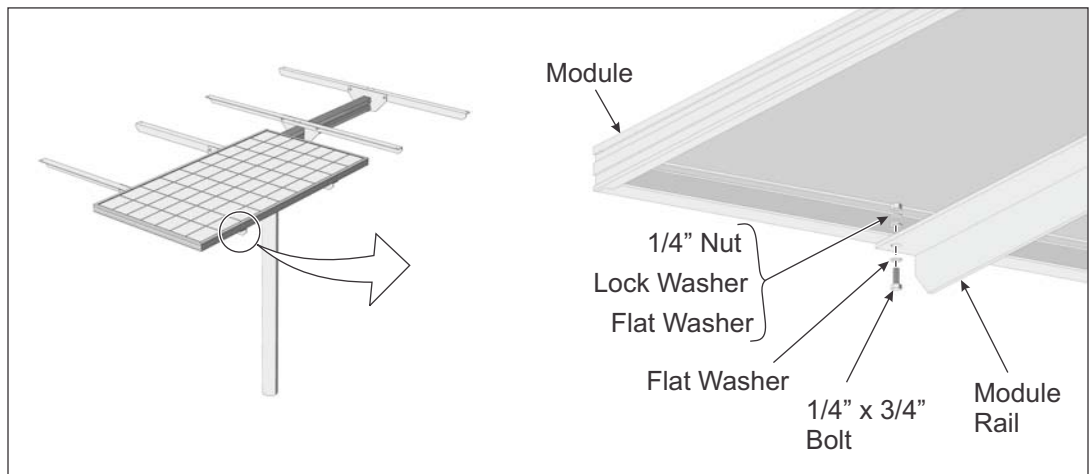

Figure 6-1: Installing PV Modules to Module Rails
- Place a southern most PV Module on the Module Rails. Align the mounting holes and secure with 1/4 inch x 3/4 inch bolts and hardware. Each Module has four attachment points. Finger-tighten for now. (See Figure 6-1)